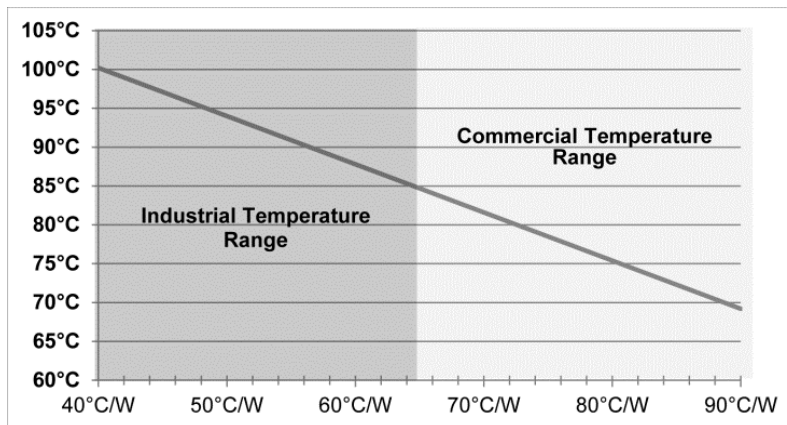

Figure 5. Maximum Ambient Temperature vs. MOSFET Thermal Resistance
The MOSFET recommended in the KSZ9031 evaluation board design is the Fairchild FDT434P with a one square inch PCB heatsink. The thermal resistance is 42°C/W. In this case, the design is safe for 85°C ambient temperature around the PHY. As shown in Figure 5, the commercial temperature range (up to 70°C) allows a maximum thermal resistance θ_{JA} of 90°C/W while the industrial temperature range (up to 85°C) allows a maximum thermal resistance θ_{JA} of 65°C/W.
- MOSFET package thermal resistance must comply with Figure 5, depending on maximum ambient temperature of the application (90°C/W for commercial temperature range and 65°C/W for industrial temperature range).